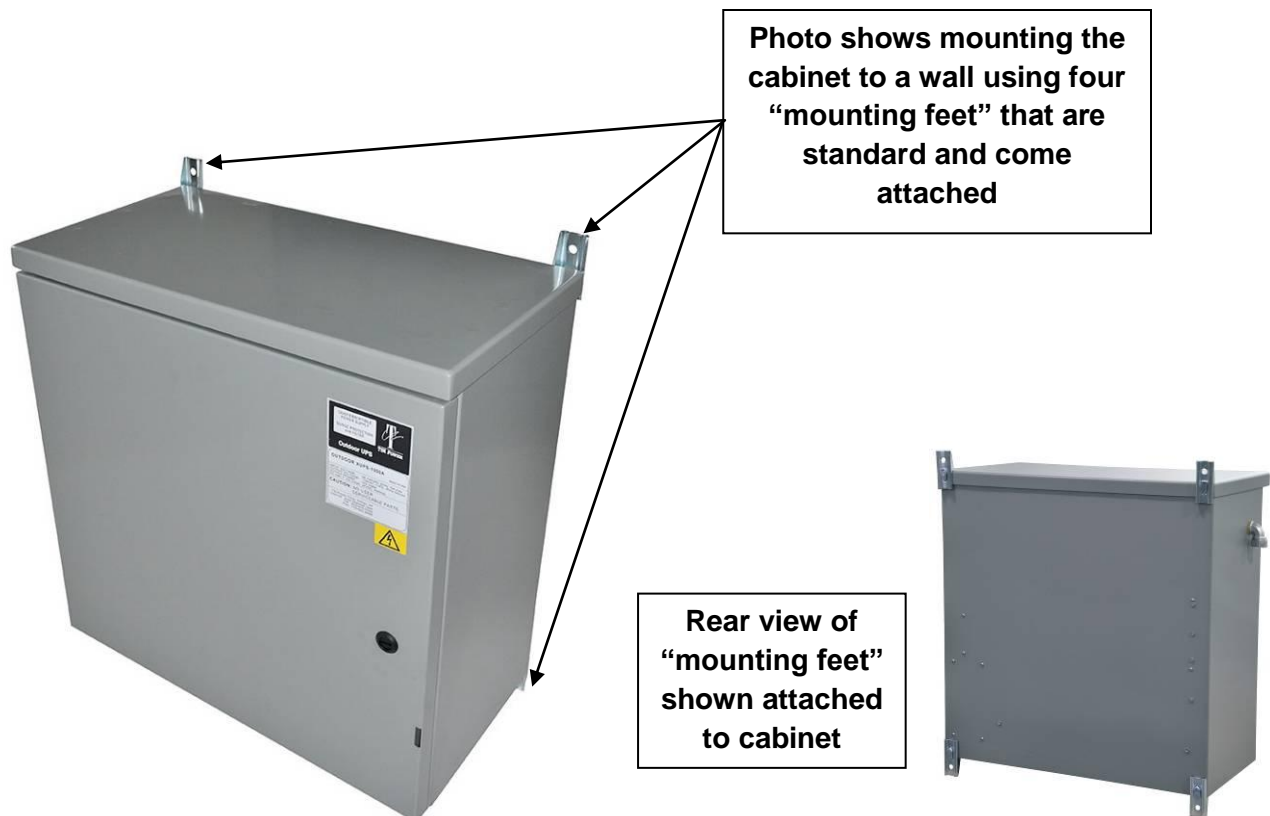

Figure 10: Wall Mounting of Outdoor XUPS
- In this configuration, the unit can be mounted vertically to a solid wall by means of four (4) mounting feet that are provided and attached as standard items when the XUPS is ordered (see Figure 10).